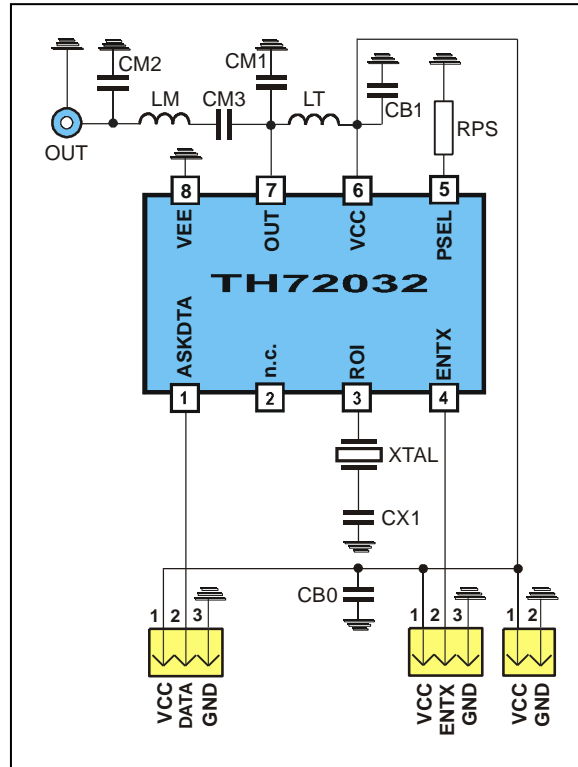

Fig. 17: Test circuit for ASK with 50 Ω matching network
typical values at $T_A = 23\text{ °C}$ and $V_{CC} = 3\text{ V}$; test circuit shown in Fig. 17, $f_c = 868.3\text{ MHz}$
- Data according to test circuit in Fig. 17 (868.3MHz)
6.1. Test circuit component list to Fig. 17